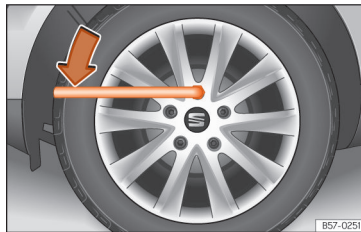

Fig. 37 Wheel change: loosen the wheel nuts.
- Fit the wheel wrench on as far as it will go »» Fig. 37.